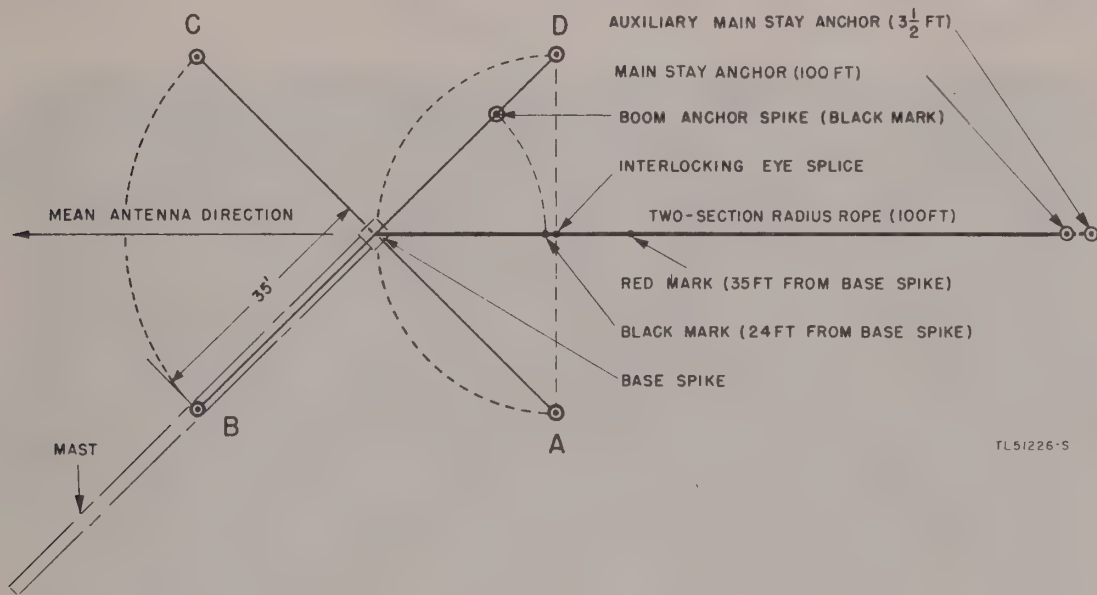
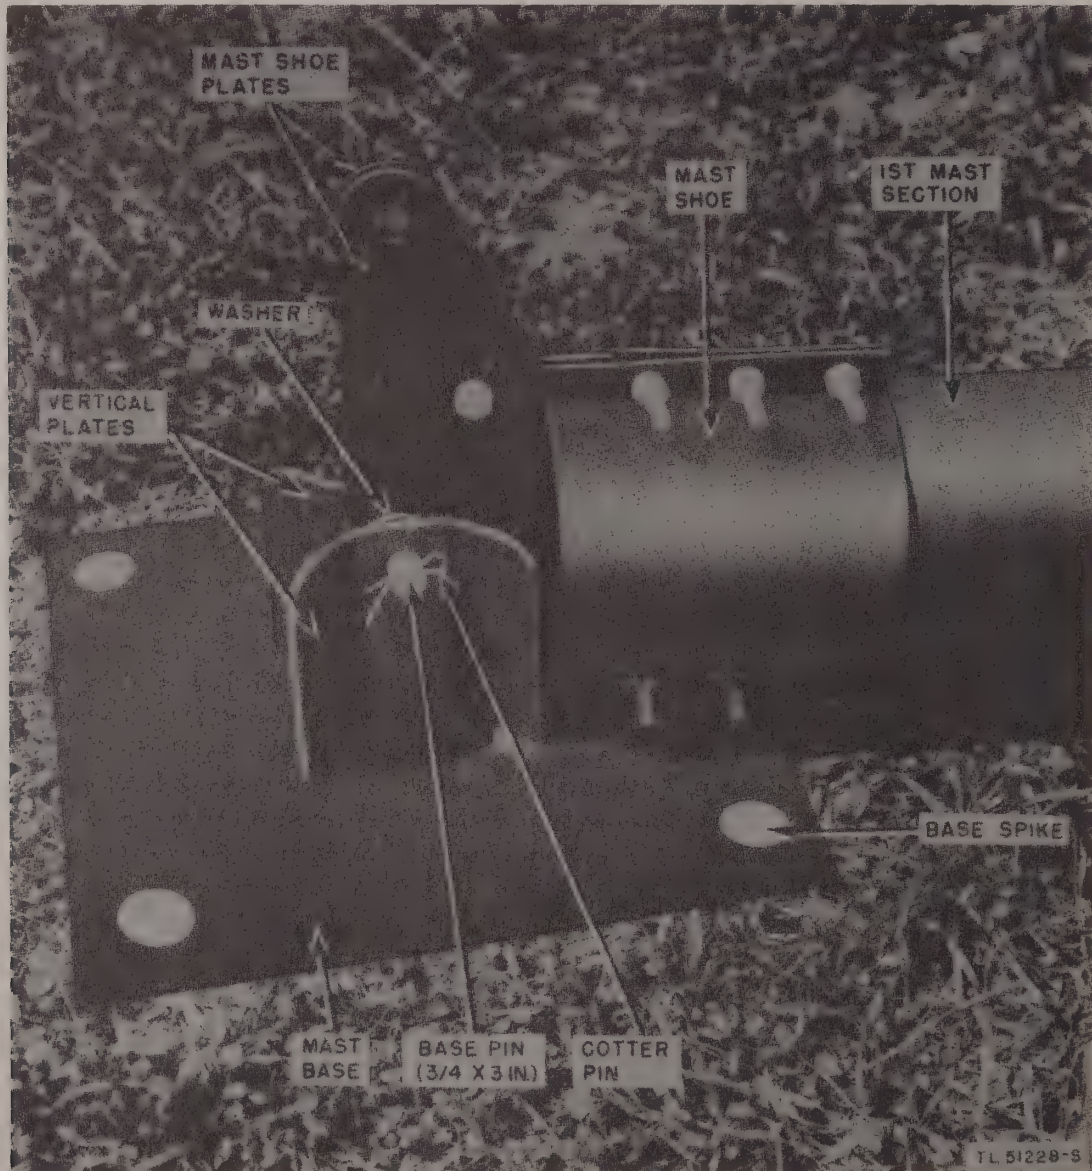

Figure 6. Anchor location.
Figure 7. Assembly of mast base, shoe, and first section.
d. Stay Anchors (fig. 6).
(1) Drop the loop of the short section end of the radius rope over the base spike.
(2) Stretch the rope along the ground in the opposite direction from the mean antenna direction.
(3) Drive a spike at the end of the radius rope to locate the *main stay anchor* 100 feet from the base spike.
(4) Drive a spike $3\frac{1}{2}$ feet beyond the main stay anchor and base spike. This is the location of the *auxiliary main stay anchor*.
(5) Drive a spike through the interlocking eye splice.
(6) Remove the short end of the rope from the base spike. Swing it 90° clockwise, or until it is perpendicular to the long section (still
7. ANCHOR LOCATION (fig. 6).
c. **Radius Rope (fig. 6).** Stretch the radius rope out on the ground and examine it. The rope is 100 feet long, and is made of one long and one short section which are joined by an interlocking eye splice. The black mark and the red mark are located 24 and 35 feet, respectively, from the loop on the short section end of the radius rope.
(1) Line up the slot between the two vertical plates of the mast base (fig. 7) with anchors B and D (fig. 6).
(2) Make certain the base is level.
(3) With the sledge hammer provided, drive the four spikes through the holes in the mast base into the ground. If the ground does not offer sufficient anchorage with the supplied anchors, dead-man anchorage should be made 5 feet directly behind anchor points A, B, C, D, and the main stay anchor. These additional anchor points should be made secure by means of wire ropes and clamps.
a. Couplings. The metal couplings are of two types. They are the plain and the stay coupling. Figure 7 indicates the number and position of both types.
c. Lower Section. Place the mast shoe plates between the vertical plates of the base (fig. 7) with plates pointing upward and the mast section pointing toward anchor B. Push the base pin ($\frac{3}{4}$ x 3 in.) through holes in the base uprights and mast shoe plates. Use washers and cotter pins provided to secure the base pin (fig. 7).
(1) Slide a plain coupling over the unattached end of the lower mast section, making sure the positioning bolts in the center of the coupling fit into the notches at the mast section end.
(2) Slide the next mast section into the upper half of the coupling, checking again to see that the positioning bolts fit into the notches of this section. Tighten clamping bolts.
(3) Install all remaining mast sections except the top (7th) section in a similar manner,